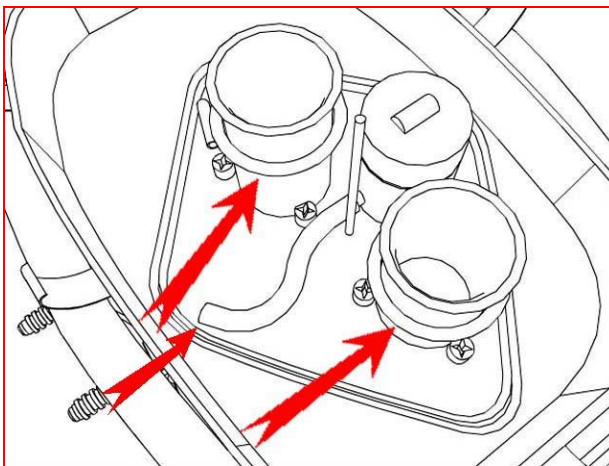

Figure 4
6. Slide the large O rings up the stacks to access the stack mounting screws. (The O rings retain the screws should they become loose.) Remove the 6 screws and the velocity stacks. (fig 4)